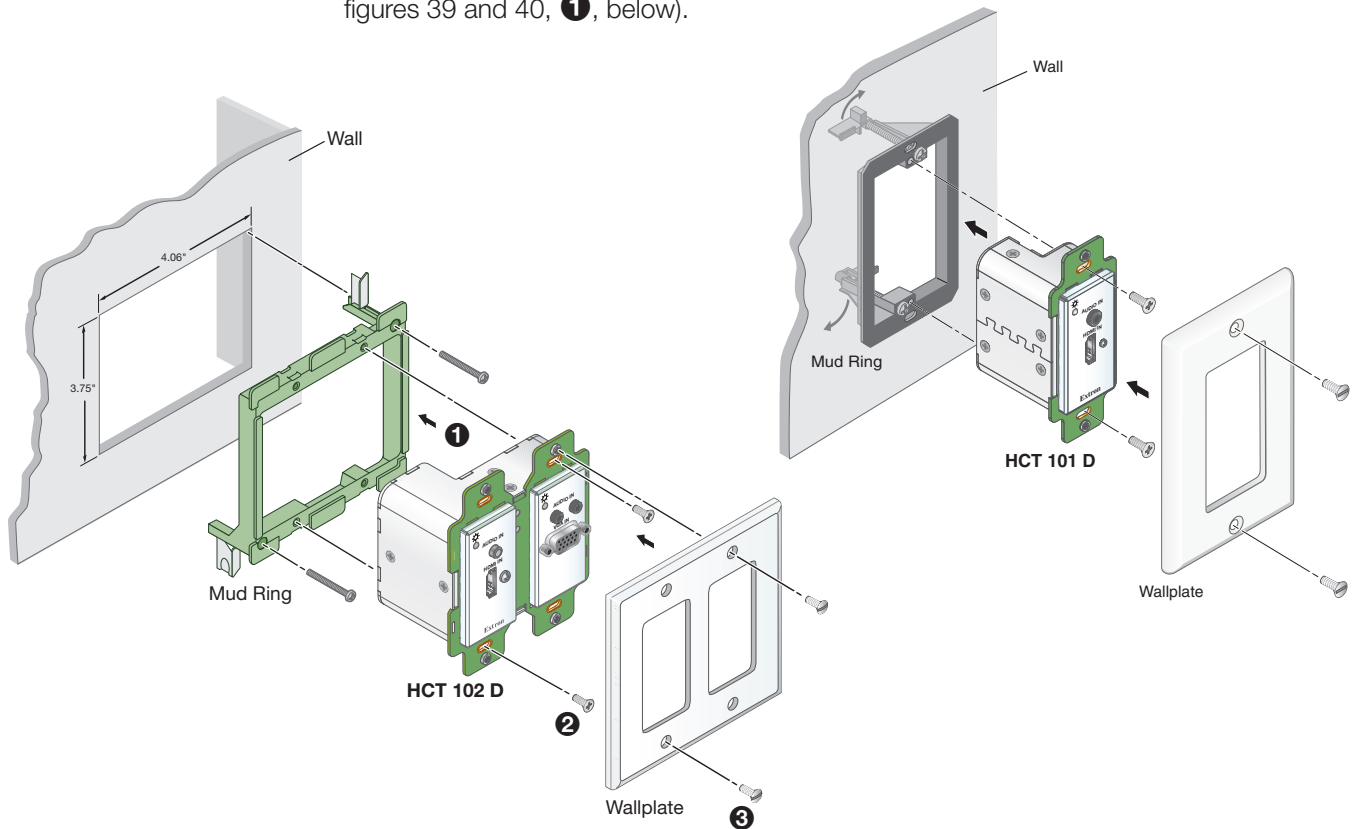
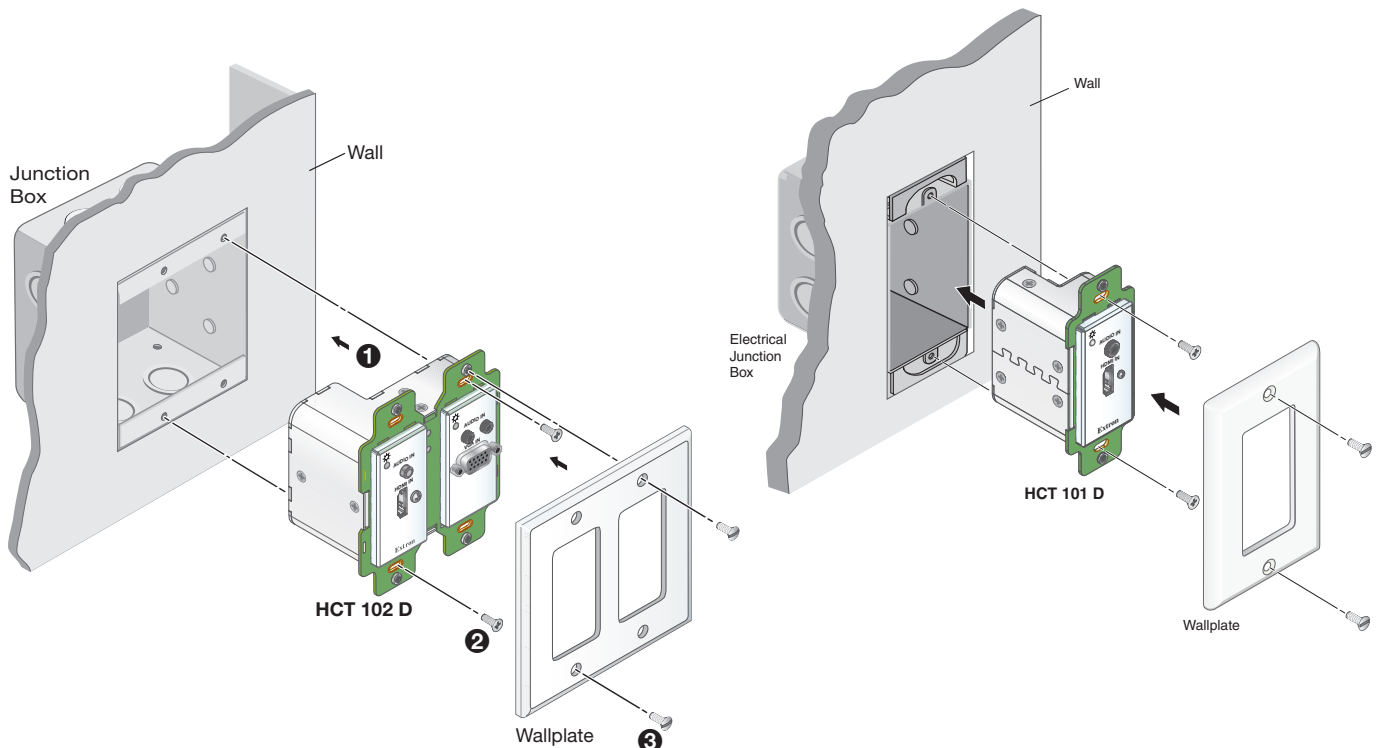

Figure 39. Mounting the HCT 102 D (Left) or HCT 101 D (Right) Transmitter to a Mud Ring
Figure 40. Mounting the HCT 102 D Transmitter to a Junction Box
1. Insert the cabled transmitter into the mud ring or junction box within the wall or furniture, aligning the mounting holes in the transmitter with those in box or mud ring (see figures 39 and 40, **1**, below).
2. Secure the transmitter to the junction box or mud ring as follows (see figure 39 and figure 40, **2** on the previous page):